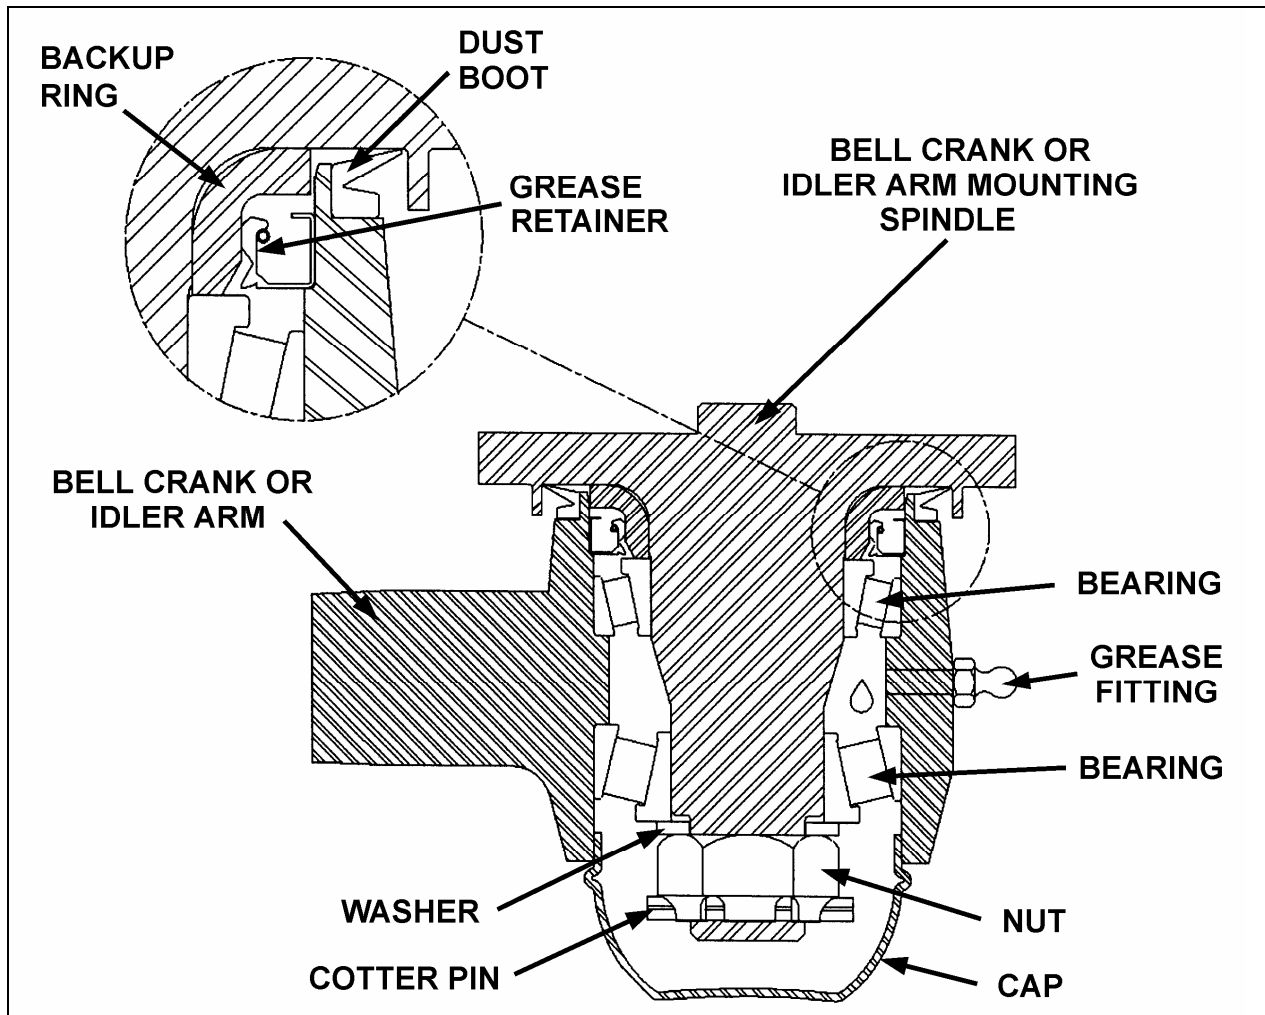

FIGURE 24: BELL CRANK AND IDLER ARM
2. Remove the cap (Fig. 24).
3. Remove the cotter pin, nut and thrust washer. Remove bearings, grease retainer, backup ring and the bell crank or idler arm from its mounting spindle (Fig. 24).
2. Install grease retainer and bearing in bell crank or idler arm eye (Fig. 24).
Note: Bend cotter pin around the nut (Fig. 24). Do not bend the cotter pin in the direction of the cap, because it may interfere with the cap.